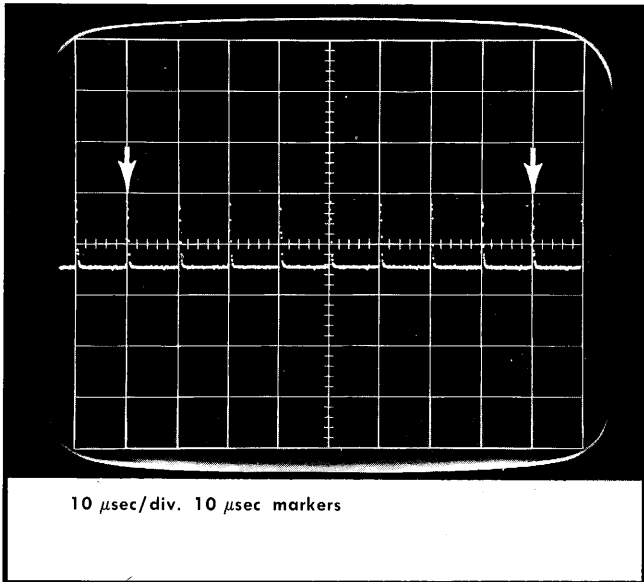

Fig. 5-22. Timing adjusted so that time-marks fall behind first and ninth graticule lines—Step 16.
c. Adjust the Type 3T4 LEVEL control for a stable display and adjust the SWEEP CAL control, R110, for exactly one time mark per division within the middle 8 divisions of the Type 567 graticule. The display will be like Fig. 5-22.